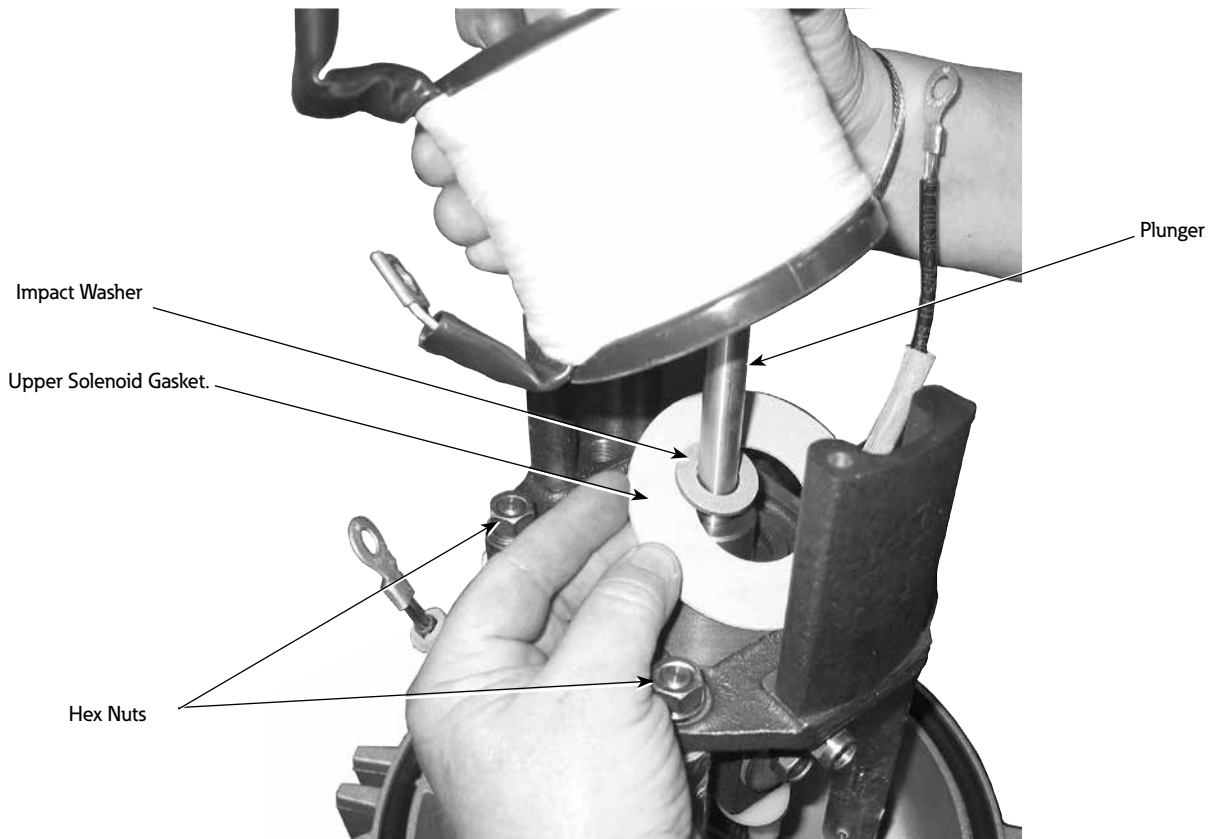

Figure 5. Upper coil assembly.
5. Remove the solenoid coil, upper solenoid gasket, and impact washer, as shown in Figure 5. Whenever the coil is replaced, the upper and lower solenoid gaskets must be replaced to maintain proper timing characteristics. The KP2090A23 gasket is used on Type H units with a plunger return force spring. The KP2090A55 gasket is used on Type H units without a plunger return force spring.